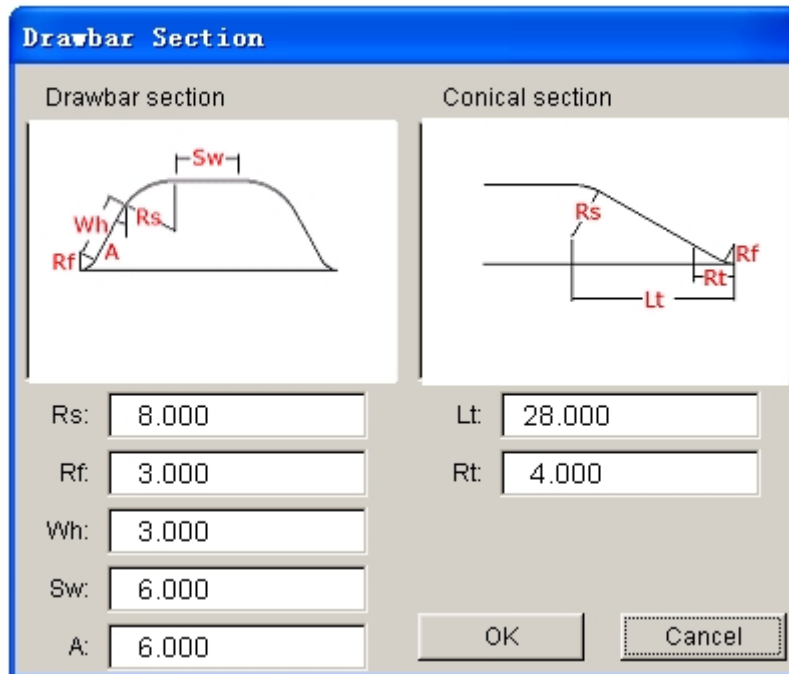

Figure 6.5.11 Parameters for Tear Drop
2. DRAW BAR ENDS WITH A CONICAL SHAPE (TEAR DROP TAIL). Figure 6.5.11 shows the parameters in the dialog box.